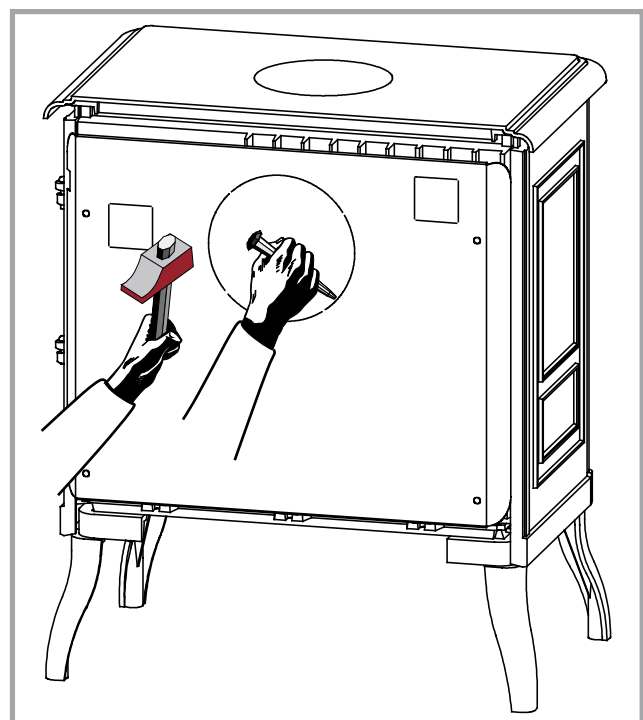

Figure 3 - Rear heat shield
- Remove the cut-out in the rear heat shield and re fit (fig. 3)